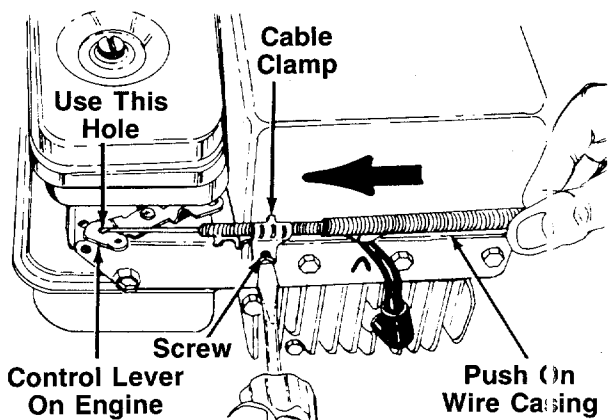

FIGURE 6A.—Model 502R
2. The throttle control cable is attached to the upper handle. Route the throttle control cable under the lower handle and inside the handle mounting bracket. Hook the "Z" end of the throttle control cable into the arm on the control lever on the engine which has two holes, using the **outside** hole as shown in figure 6A.
3. Remove the screw on the cable clamp on the engine shown in figure 6A. Slip the control casing under the clamp. Replace the screw, but do not tighten (cable must still move freely beneath the clamp).
4. Slide the control lever on the engine as far toward the **outside** of the engine as it will go. Push the wire casing on the throttle control cable toward the control lever on the engine as shown in figure 6A as you tighten the screw on the cable clamp to secure the cable in this position.